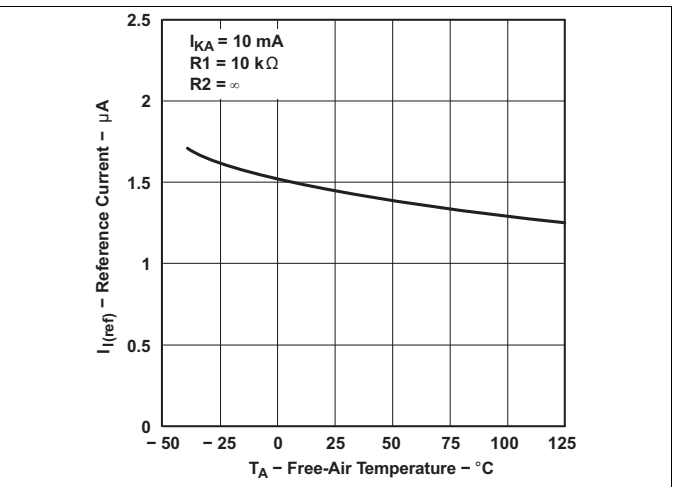

Figure 2. Reference Current vs Free-Air Temperature
When the device is operating with two external resistors (see Figure 2), the total dynamic impedance of the circuit is given by:
- (2) On products compliant to MIL-PRF-38535, this parameter is not production tested.
- (3) The output impedance is defined as: $|Z_{KA}| = \frac{\Delta V_{KA}}{\Delta I_{KA}}$
- When the device is operating with two external resistors (see Figure 2), the total dynamic impedance of the circuit is given by: $|z'| = \frac{\Delta V}{\Delta I}$, which is approximately equal to $|Z_{KA}| \left(1 + \frac{R1}{R2} \right)$.
Reference current vs Fire-air temperature	Figure 2